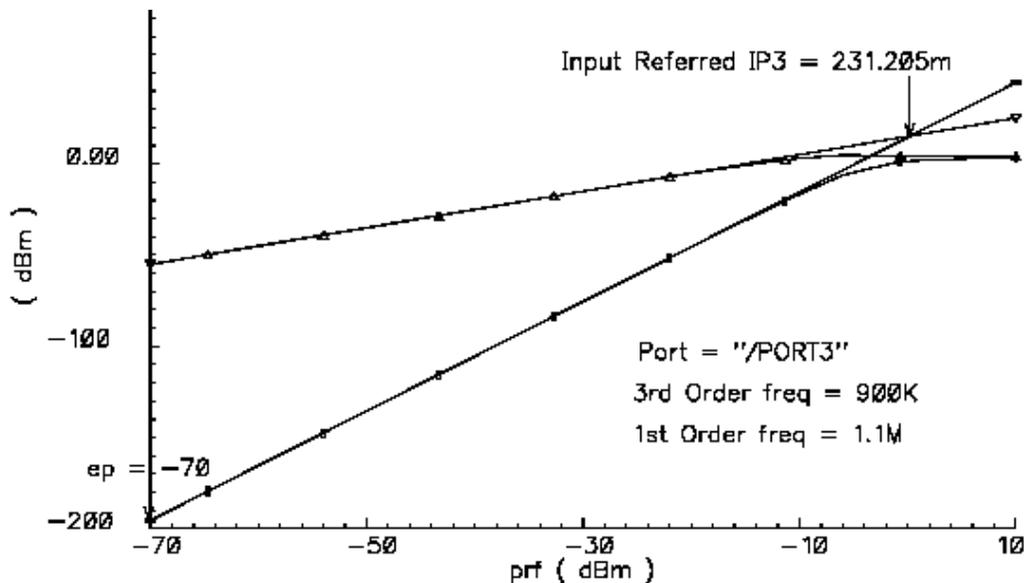

Fig 12: IIP3 using QPSS and QPAC
- Activate the Schematic Window and click on IF port to view the results as shown in Fig12